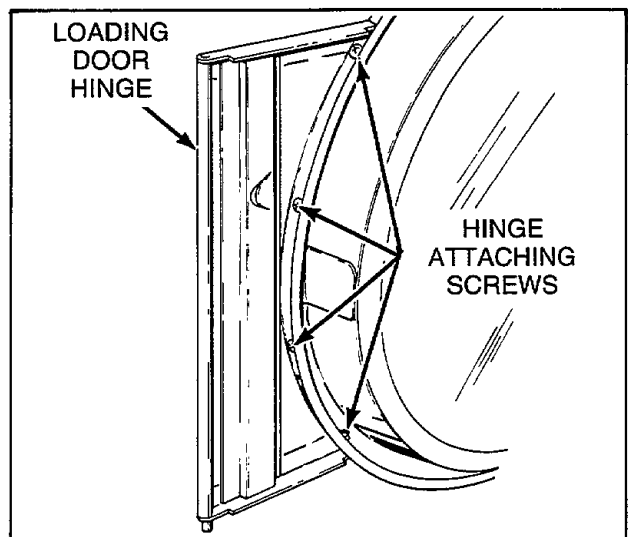

Figure 16
- b. Remove four nuts, lockwashers and screws holding hinge to door frame, *Figure 16*.